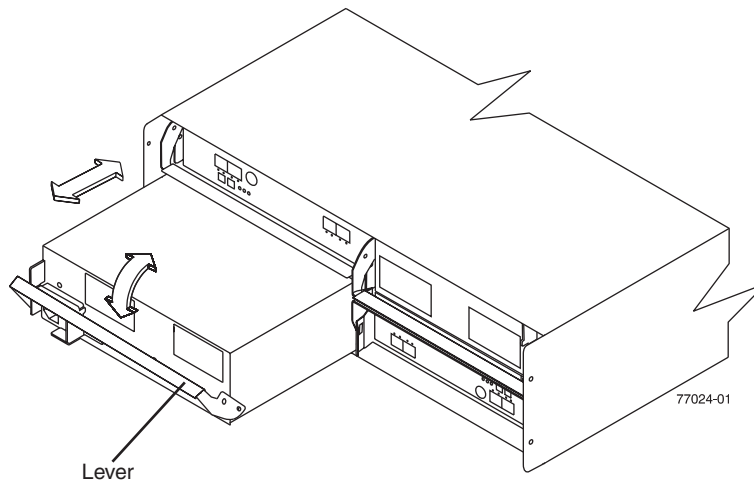

Figure 36. Replacing a power supply and fan unit
Use the following procedure to replace an ac power supply and fan unit. Figure 36 on page 82 illustrates removing and inserting a unit.
11. Slowly pull the lever away from the chassis to remove the power supply and fan unit, as shown in Figure 36 on page 82.